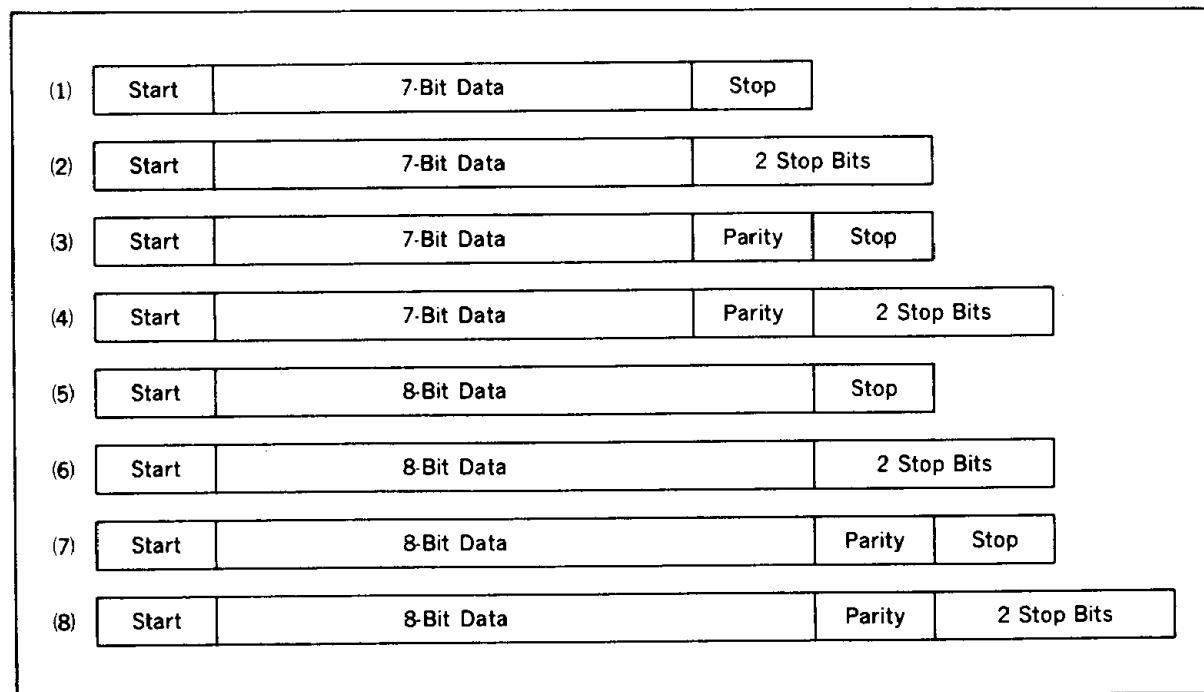

Figure 32. Asynchronous Formats
**Asynchronous Mode :** The asynchronous mode has eight transfer frame formats with 7 or 8 data bits, 1 or 2 stop bits and parity or no parity (figure 32).